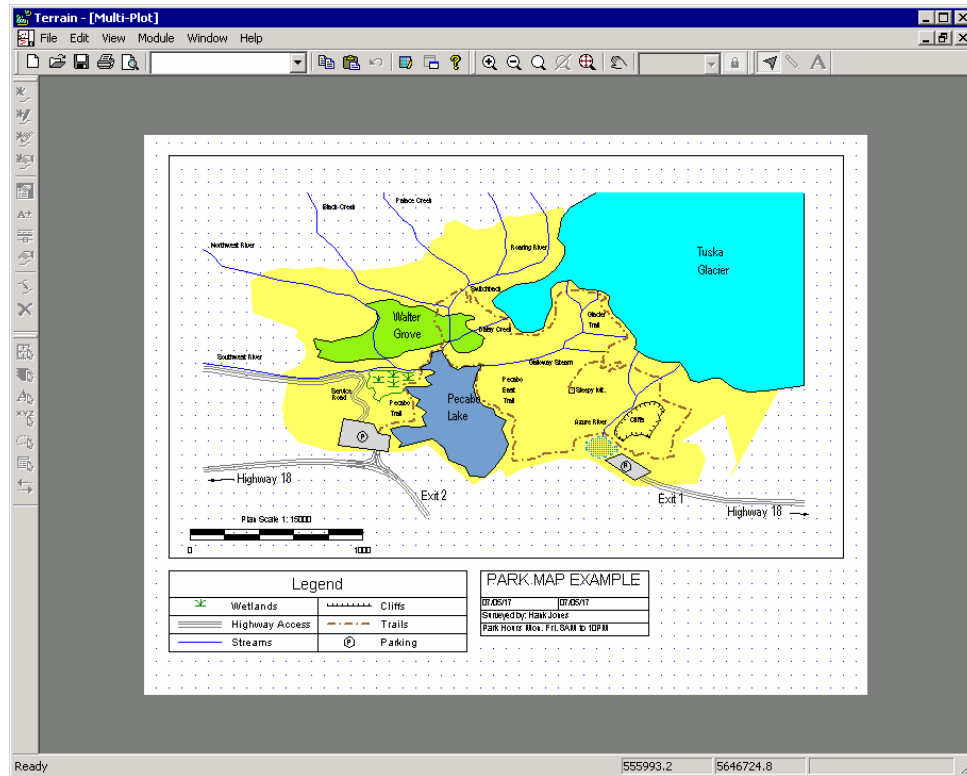

Figure 3.36: Multi-Plot With Rectangle
- Repeating the procedure from step 17, create and position several rectangles as shown in Figure 3.36. Enter any text you wish.